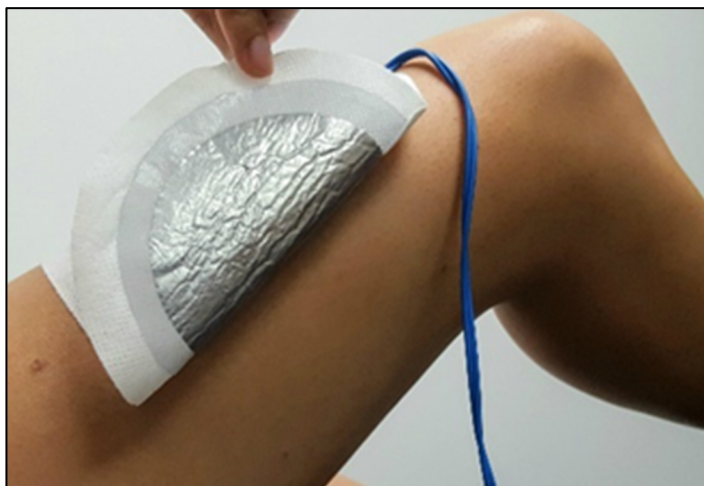

Figure 5-2. Remove Dispersive Electrodes from patient and inspect skin.
- Gently peel the Dispersive Electrodes from the patient, see Figure 5-2~~Figure 5-2~~.